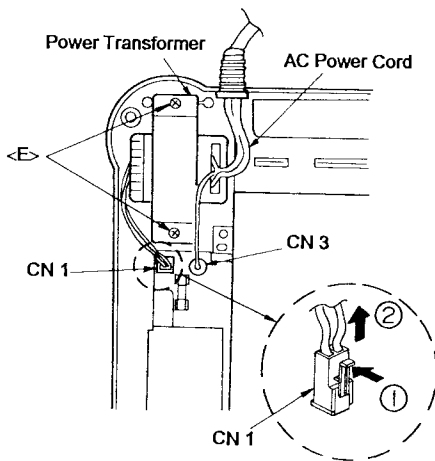

Figure 5
(1) After removing the top case and the CD-ROM drive, remove two screws <E> (3 × 10 mm) , then disconnect two connectors (CN 1, CN 3) as shown in Figure 5.
(2) Raise the power transformer (with the AC power cord).